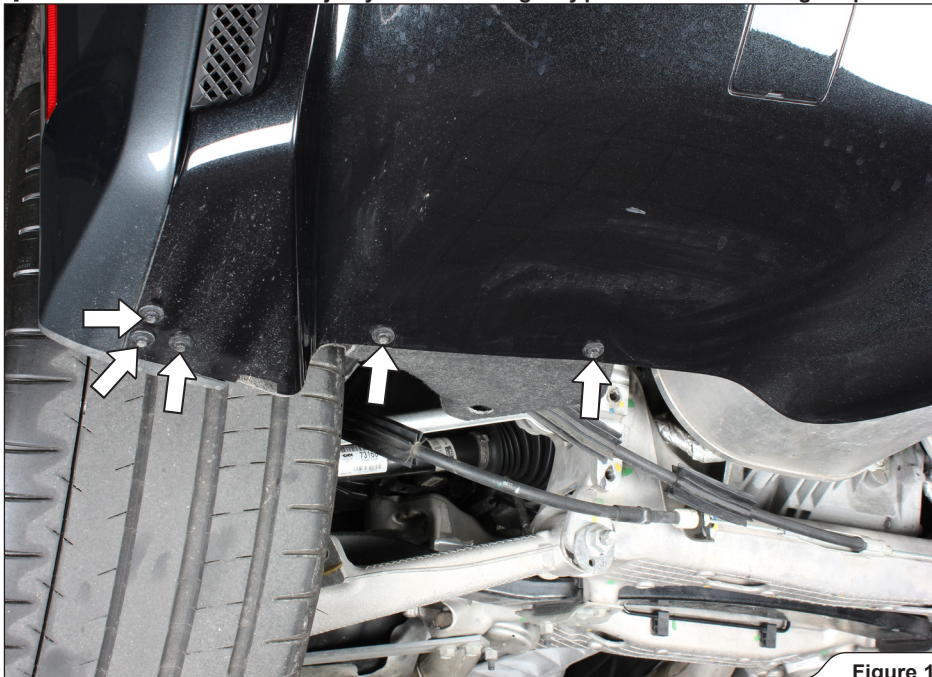

Figure 1
1. Unscrew the marked bolts on both sides of the rear bumper (Figure 1).